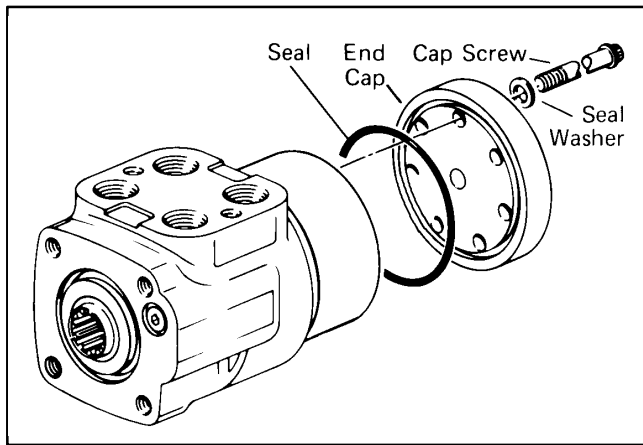

Figure 49
23. Install drive spacer(s), when used, in meter, see Fig. 49.